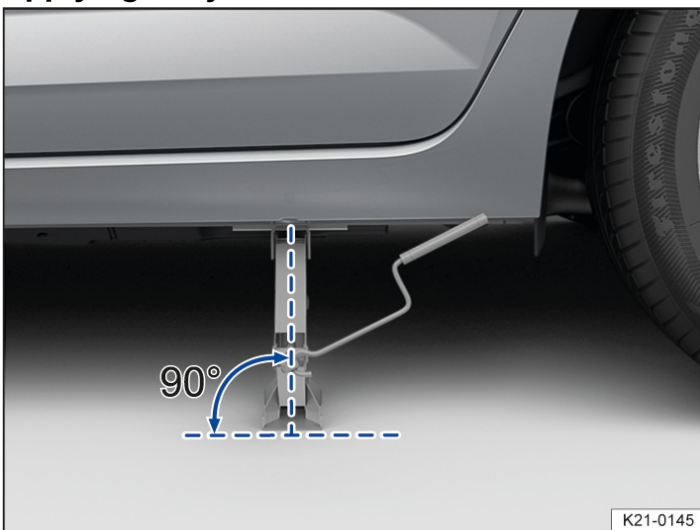
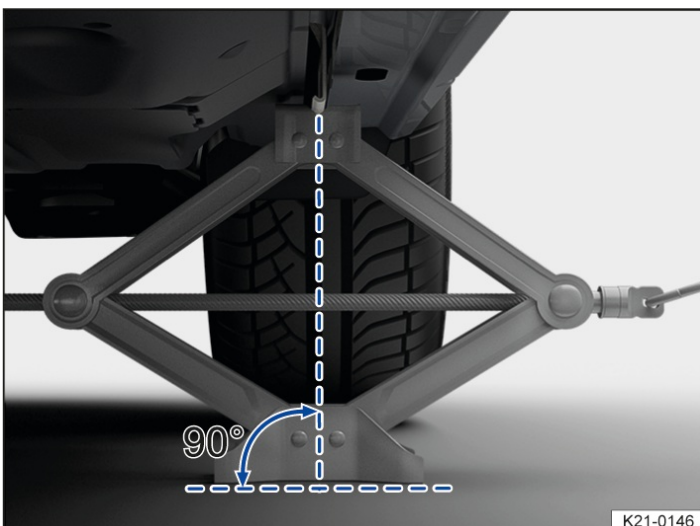

Fig. 2 Correct alignment of the jack.
Fig. 3 At the rear left-hand side of the vehicle: jack applied.
4. Make sure that the entire surface of the foot of the jack is resting securely on the ground and that the foot of the jack is positioned vertically directly beneath the jacking point → *Fig. 2* and → *Fig. 3*.
5. Position the jack and simultaneously continue to crank the claw up until it is in position around the jacking point underneath the vehicle → *Fig. 3*.
- Fit the jack only at the described jacking points. The jack claw must grip the vertical rib under the side member securely → *Fig. 3*.